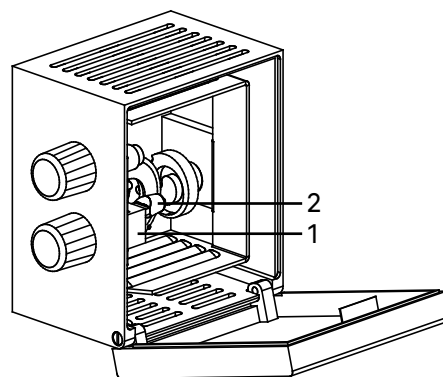

Fig. 20. Replacing the reflected light bulb
- loosen the lock screw using a wrench and remove the back cover of the lamphouse, as shown in Fig. 20